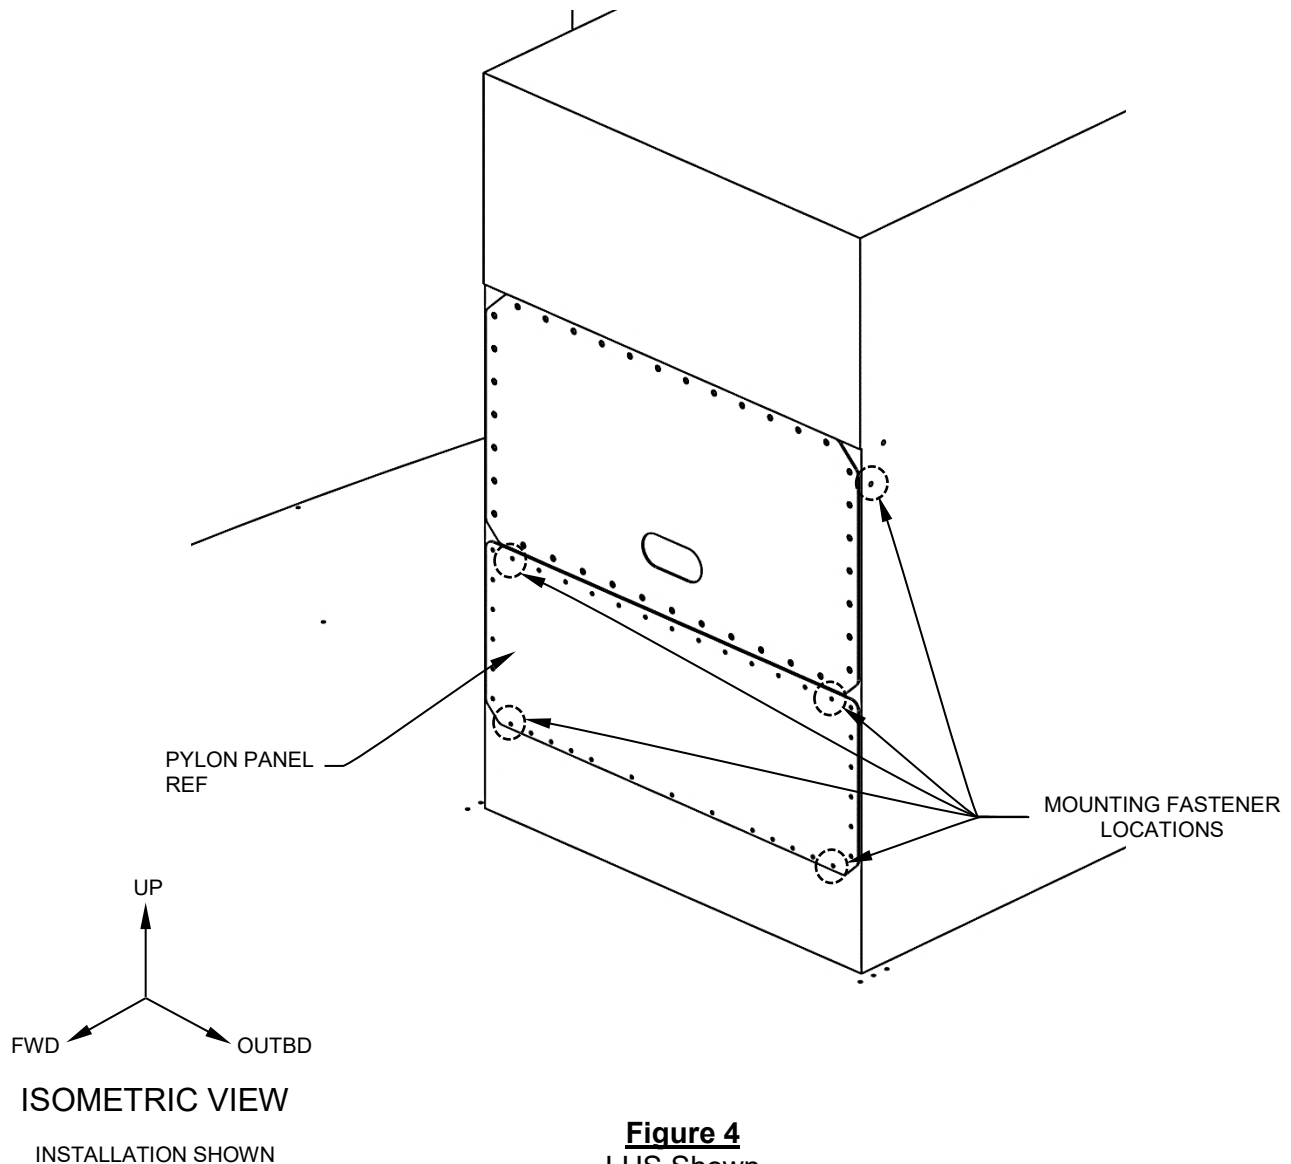

Figure 4
2. Remove the existing fasteners from the specified locations on the panel. Reference Figure 4.